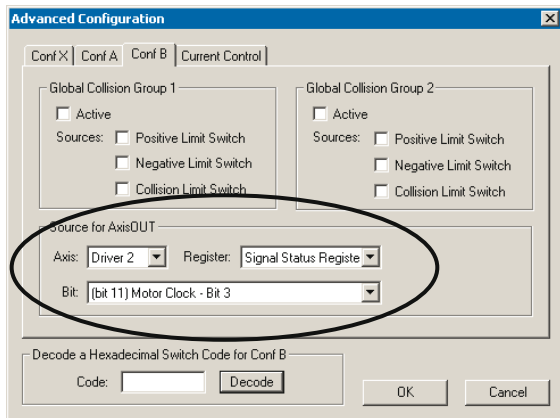

Figure 6.13 Motorized Drives section Theta - Advanced Configuration
4. Answer **Yes** to the confirmation message and click **Additional Settings**. The following box appears (see Figure 6.13). The “Axis” must be set to **Driver 2**. Set “Register” to **Signal Status Register** and “Bit” to **(bit 11) Motor Clock - Bit 3**.